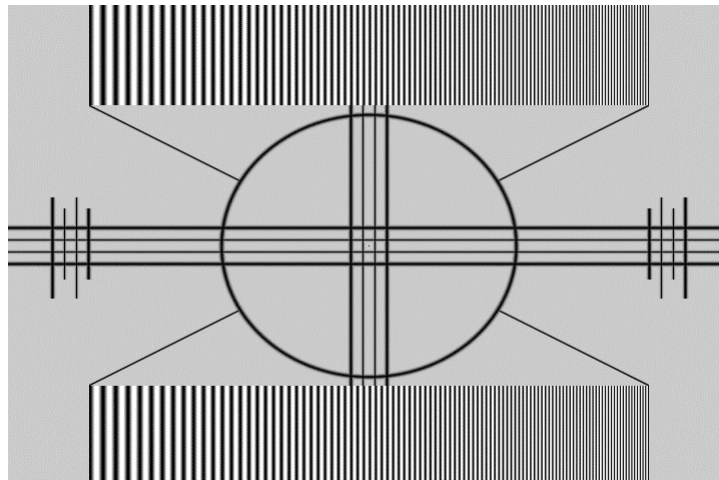

**Figure 4-5: Typical Test Pattern for Adjusting Sharpness**
**Sharpness:** “Sharpness” is the amount of high-frequency detail in the image. To adjust this, select Sharpness from the Main menu and press ENTER. On your external test pattern source, select a pattern like the one shown in Figure 4-5.